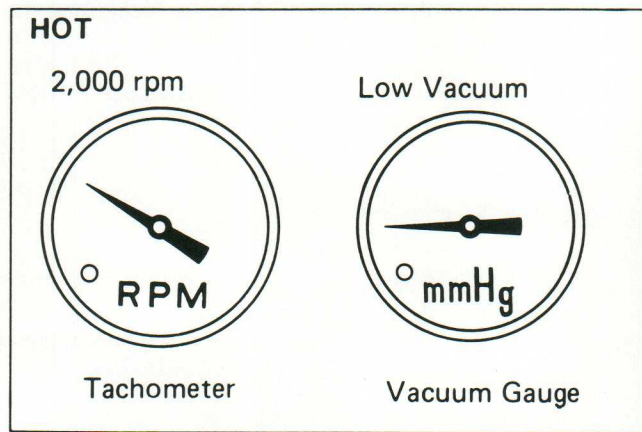

Figure 246-8
4. **Check the TVSV and EGR vacuum modulator with a hot engine.** Warm up the engine. Check that the vacuum gauge indicates low vacuum at 2,000 rpm (Figure 246-8).